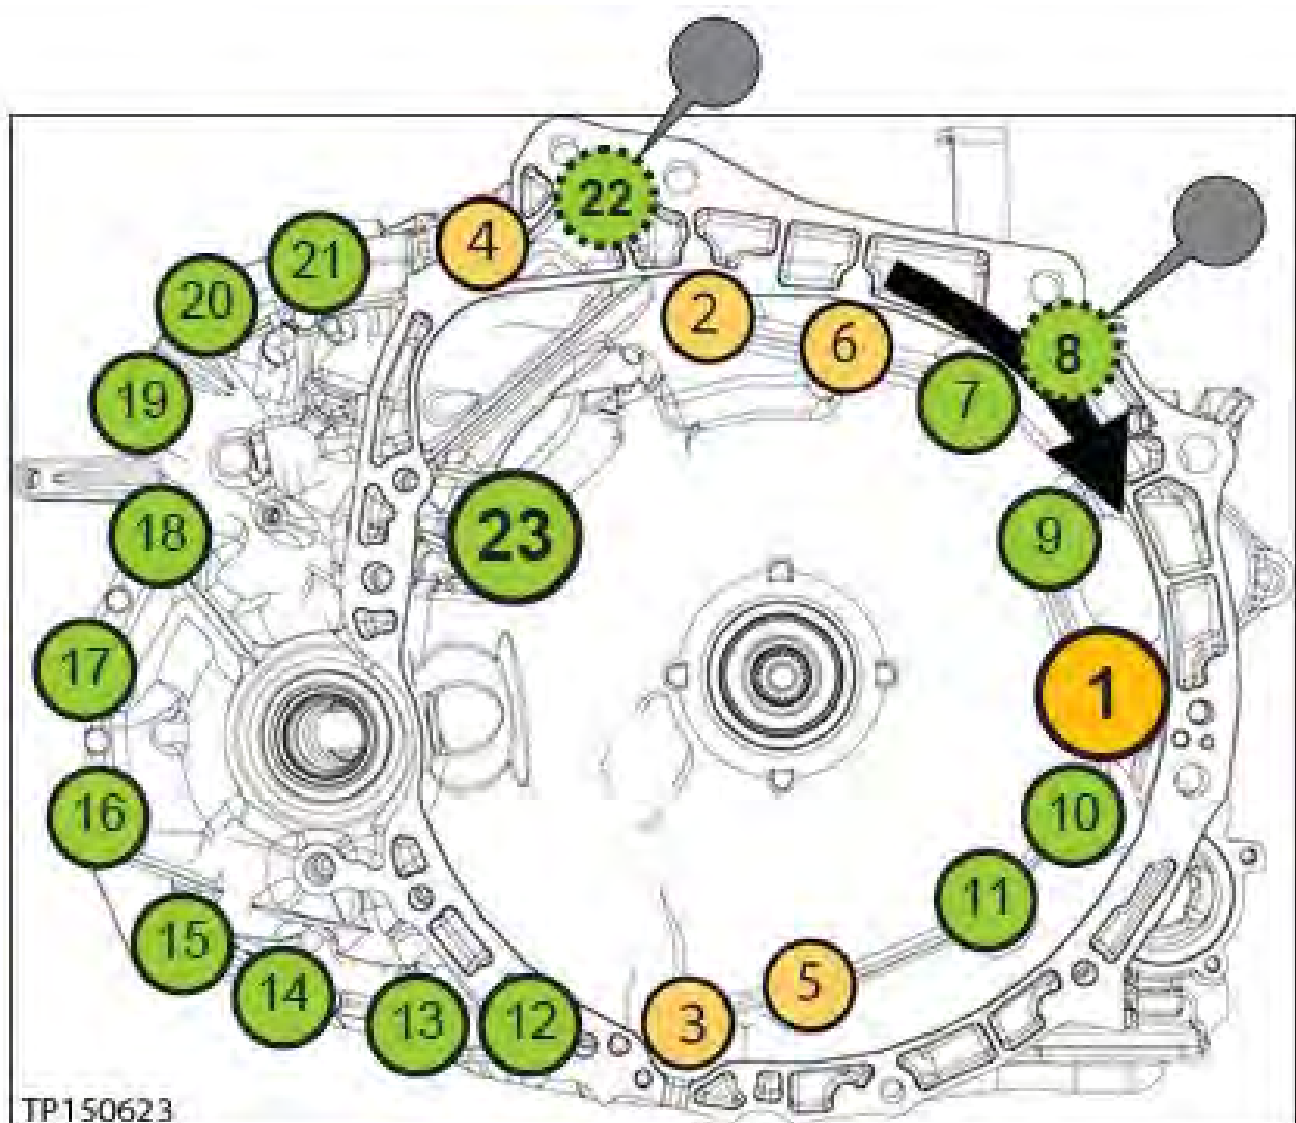

Figure 171
16. Install the converter housing onto the CVT case (see Figure 171 for torque sequence):
- Install new bolts (23).
- a. Torque the first six (6) bolts with symbol  in numbered sequence (see below).
IMPORTANT: Make sure to torque the bolts in the sequence shown (Figure 171).